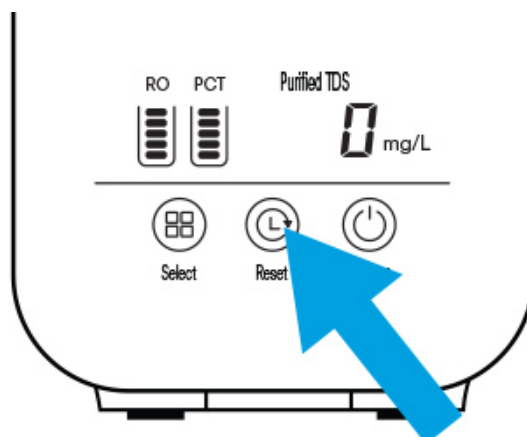

Figure 14
1. Press the filter life reset indicator for 5 seconds (Figure 14). Release the indicator when you hear a beep. Now filters are ready to be reset;